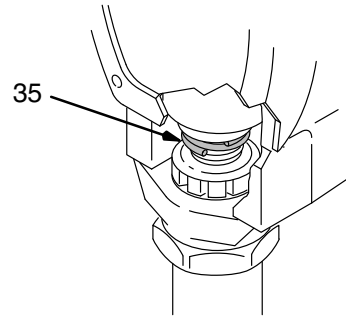

Fig. 38
3. Continue to screw the pump into the bearing housing until the top threads of the pump cylinder are flush with the face of the bearing housing and the outlet nipple is straight back. Push the retaining spring (35) into the groove all the way around the connecting rod to prevent it from working loose due to vibration. See Fig. 38.